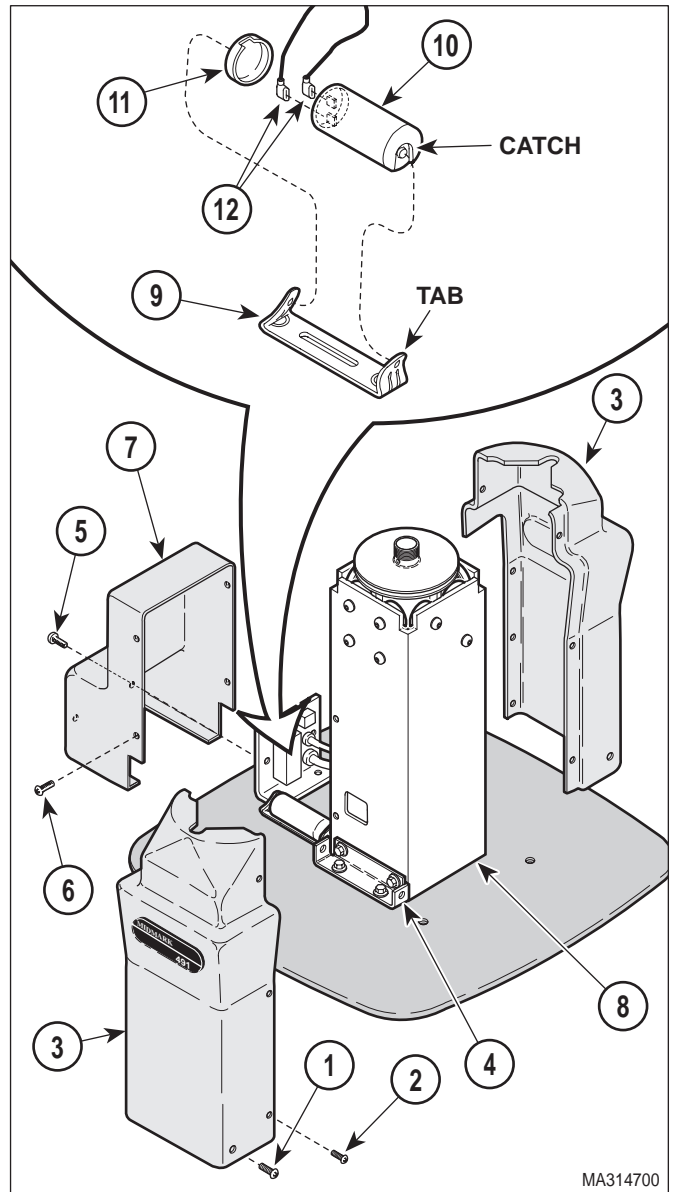

Figure 4-18. Base Capacitor Removal / Installation
- (1) If possible, raise BASE UP function all the way up.
- (2) Unplug chair power cord from wall outlet.
- (3) Remove four screws (1, Figure 4-18), four screws (2), and R.H. and L.H. shrouds (3) from base mounts (4).